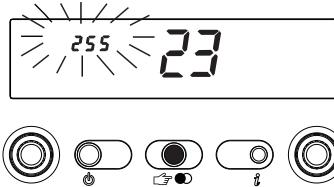

Fig. 77
- **R.A.I.-MIX R.S.I.:** turn the domestic hot water selector until the value on the display is 255 (fig. 77)